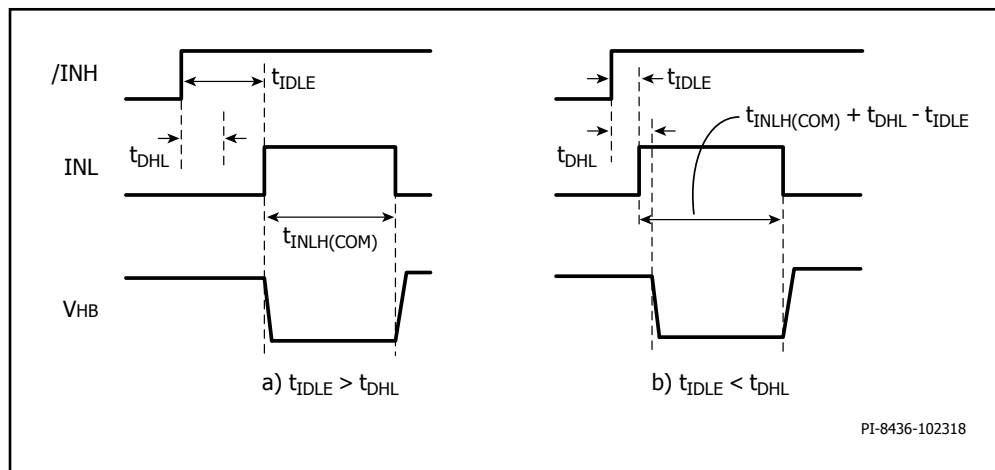

Figure 25. Minimum INL High Time Required for Device Internal High-Side Status Update a)  $t_{IDLE} > t_{DHL}$  b)  $t_{IDLE} < t_{DHL}$ .
- Assumes control input /INH was high for an idling period of  $t_{IDLE} > t_{DHL}$ . The required minimum INL high time for internal communication increases by  $t_{DHL} - t_{IDLE}$  if  $t_{IDLE} < t_{DHL}$  (refer to Figure 25).